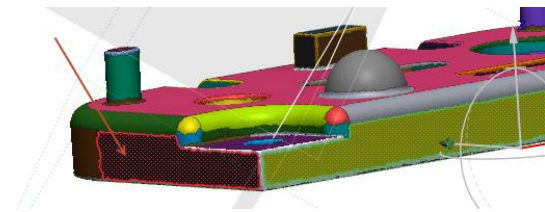

Figure 94
- The **Position** will set the **Right Plane** and the location along the X Axis. Select the **Plane Region** shown in **Figure 94**.